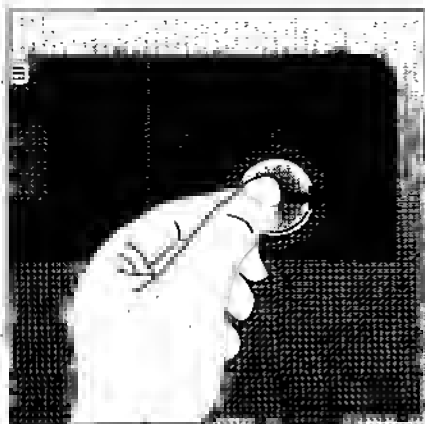

Fig. 6
- ☐ To set the dose, open the dispenser by twisting the cap ¼ revolution anticlockwise (Fig. 6).